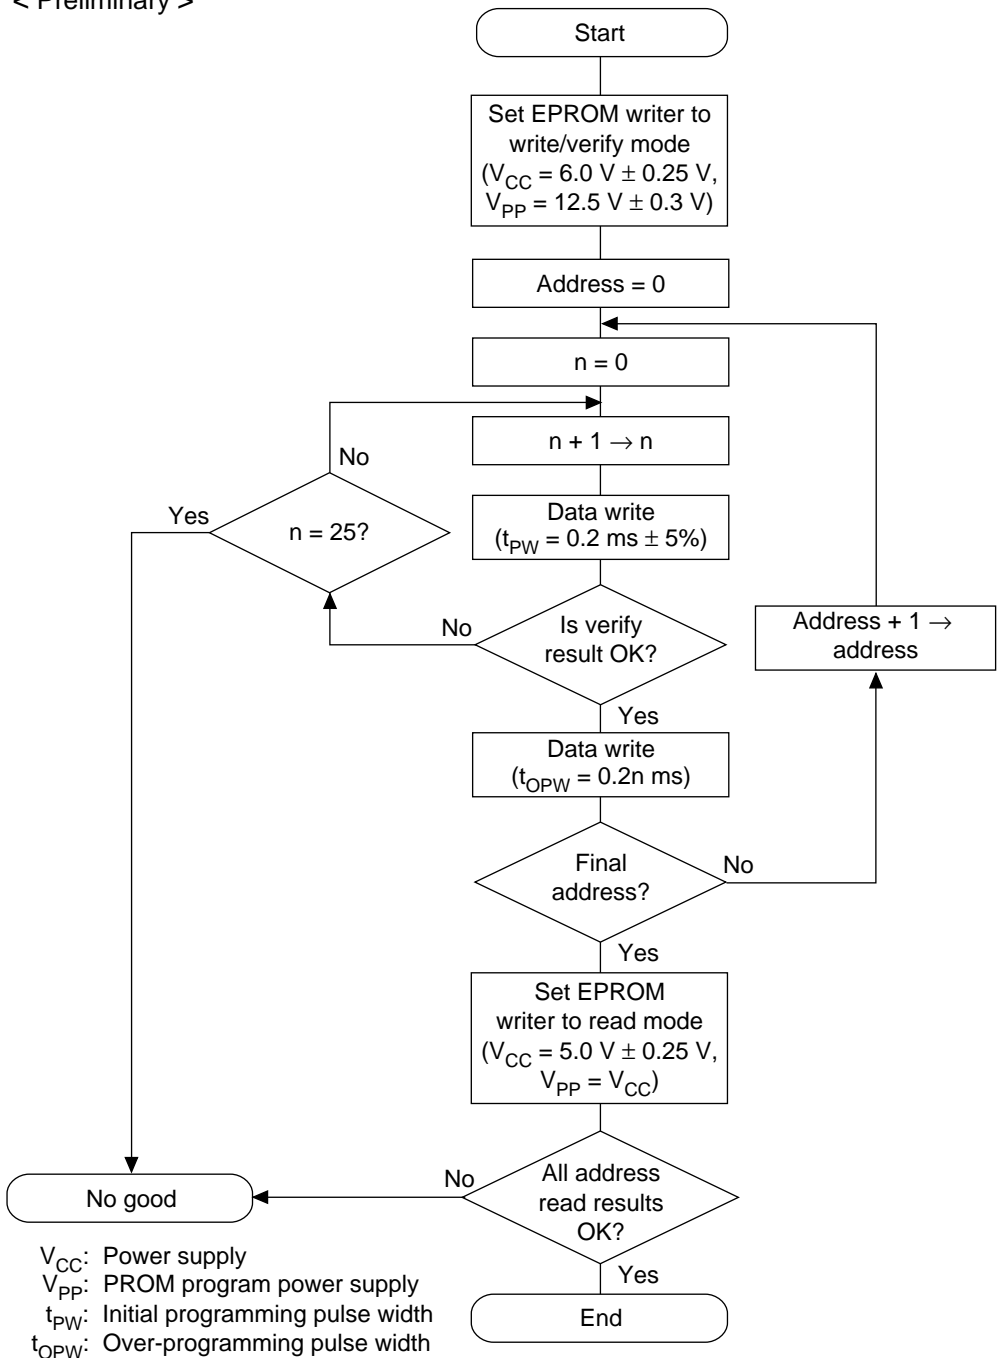

Figure 21.6 High-Speed, High-Reliability Programming Basic Flow
Write/Verify: Writing and verification can be done using an efficient high speed, high reliability programming format. This format allows data writing that is both fast and reliable without applying voltage stress to the device. Figure 21.6 shows the basic flow of the high speed, high reliability programming format.
3. t_{OPW} is defined by the values noted in the flowchart (figure 21.6).